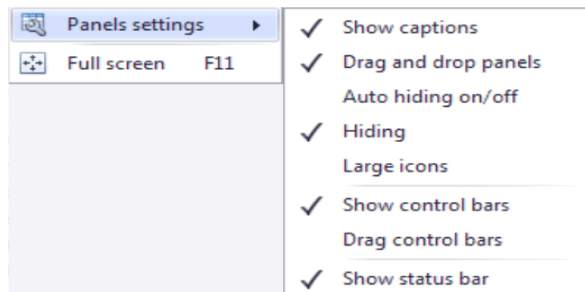

Fig. 11. Panels settings
**Panel settings** – options in this menu allow setting up windows parameters (**Fig. 11**):